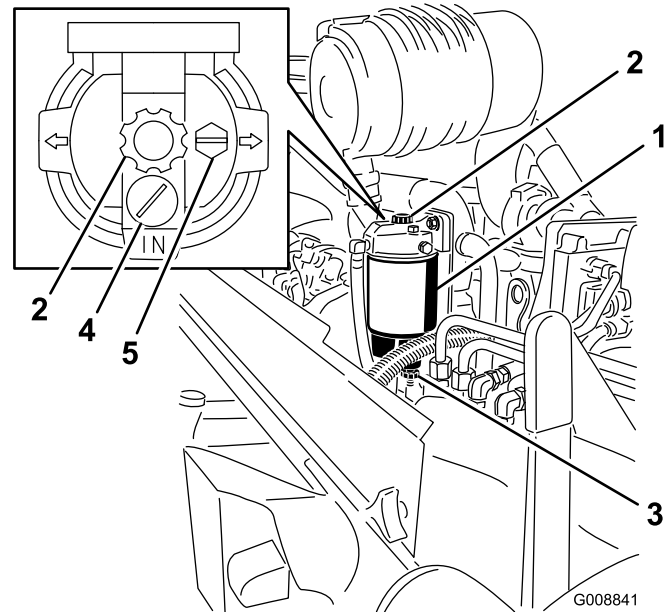

Figure 62
1. Place a clean container under the water separator (Figure 62).
2. Open the drain plug and operate the pump to drain off contaminants (Figure 62).
2. Drain some fuel by loosening the vent plug and opening the drain plug (Figure 62).